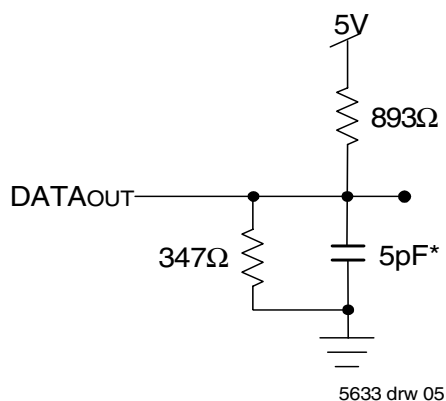

Figure 2. Output Test Load
- Transition is measured 0mV from Low or High-impedance voltage with the Output Test Load (Figure 2). This parameter is guaranteed by device characterization, but is not production tested.
1. Transition is measured 0mV from Low or High-impedance voltage with the Output Test Load (Figure 2).
- Transition is measured 0mV from Low or High-impedance voltage with the Output Test Load (Figure 2).